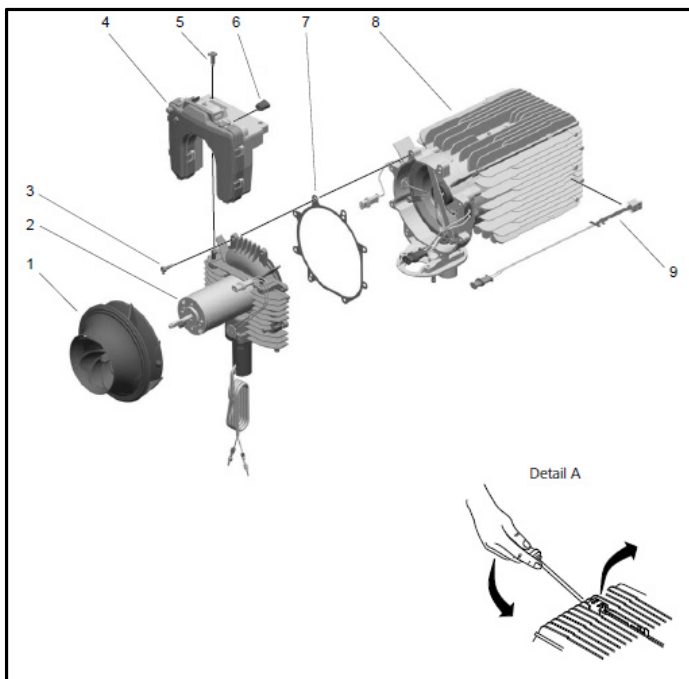

Figure 30: Replace control unit, Overheat Temperature Sensor, heating air fan and drive unit
3. Remove screws (5, Figure 30).
4. Disconnect connectors on control unit (4).
5. Pull out control unit (4) upward.
2. Fasten control unit (4, Figure 30) with screws (5).
3. Tighten screws (5) to 3.0 ± 0.3 Nm.
3. Disconnect plug connection X3 from control unit (4, Figure 30).
3. Position a pair of long-nose pliers from the front between the two locking lugs on the motor shaft. Hold heating air fan (1, Figure 30) with one hand and simultaneously and carefully spread two lugs with a slight twisting movement. Pull off heating air fan (1).
2. Slide heating air fan (1, Figure 30) onto motor shaft until engaging of lugs on both sides is audible at stop.
4. Check smooth running of heating air fan (1) by hand, then listen for any noises when switching on later. The sensor magnets on the heating air fan (1) must be free from chips containing iron, etc.
IMPORTANT: Only replace the drive unit (2, Figure 30) with a drive unit with the same performance data and the same ID No.
1. Make sure that sealing surfaces on drive unit (2, Figure 30) and on heat exchanger (8) are not damaged.
2. Lay new flat seal (7) on flange of drive unit (2).
3. Move drive unit (2) into assembly position and secure it with screws (3).
4. Tighten screws (3) to 6.0 ± 0.6 Nm.
6. Fit heating air fan (1) (see 9.2.5.2).